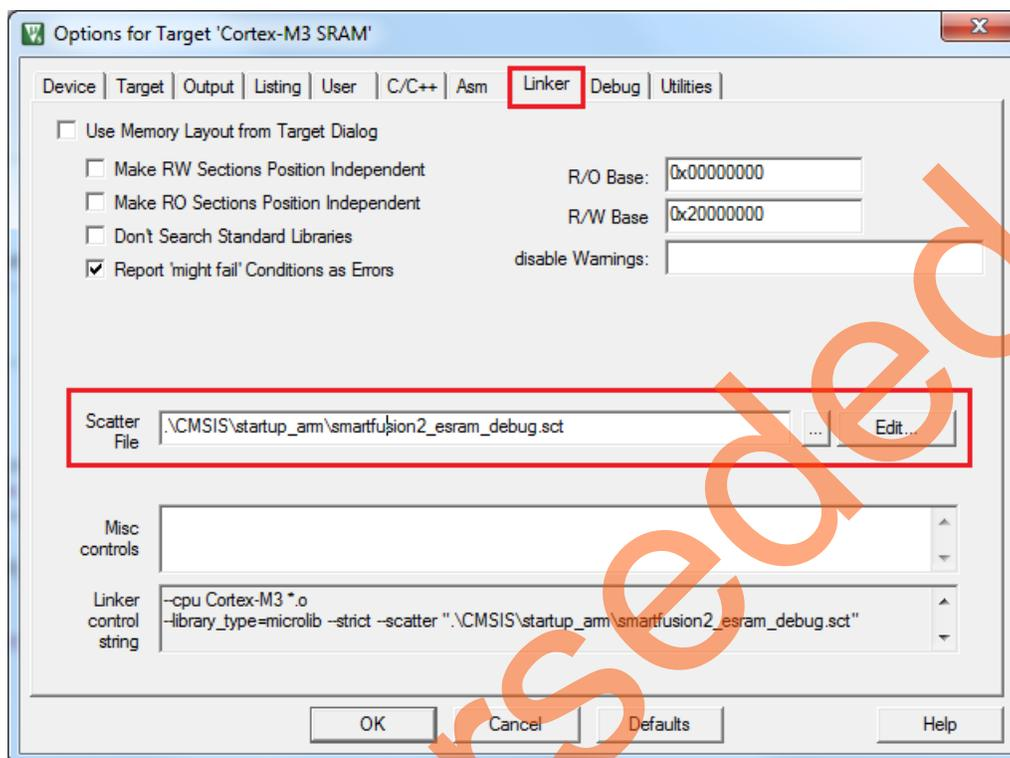

Figure 29 • Target Options - Scatter File
- Click the **Linker** tab and navigate to the SF2_SPI_Flash_Keil_Tutorial_DF\LiberoProject\Keil\CMSIS\startup_arm folder to select the **Scatter File** as smartfusion2_esram_debug.sct, as shown in Figure 29.